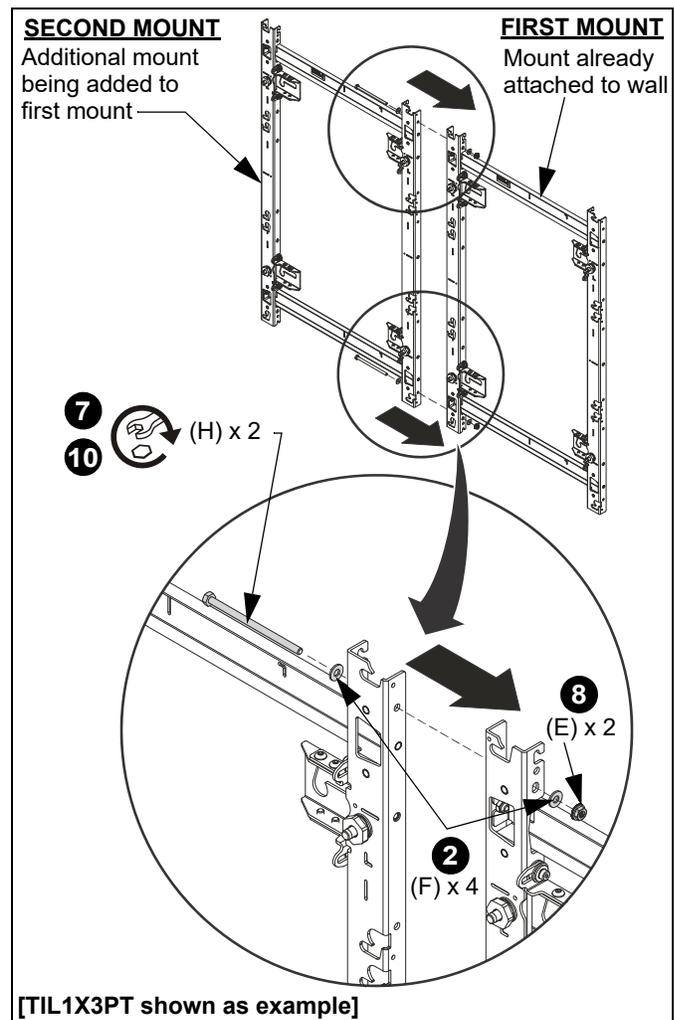

Figure 12
- install two 1/4-20 x 4-1/2" hex head bolts (H) and two 1/4" steel washers (F) into the right or left side of the second mount at **both top and bottom**, and through into the left or right side of the first mount. (See Figure 12)
- Loosely fasten second mount to first mount using two 1/4" steel washers (F) and two 1/4-20" flanged hex nuts (E). (See Figure 12)
- Tighten both fasteners between mounts (at top and bottom where the second mount is connected to the first mount). (See Figure 12)